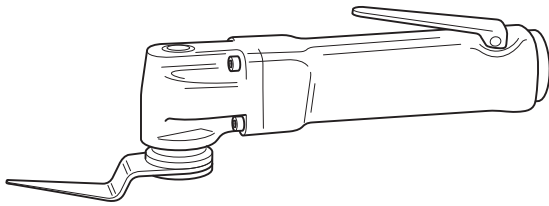

Fig 5. Pneumatic Knife
- a Pneumatic Knife. ⇒ Fig 5. \(□ 1-8\). This provides one of the easiest methods of removing the sealant around laminated glass. The tool, powered by compressed air, should be sourced locally.